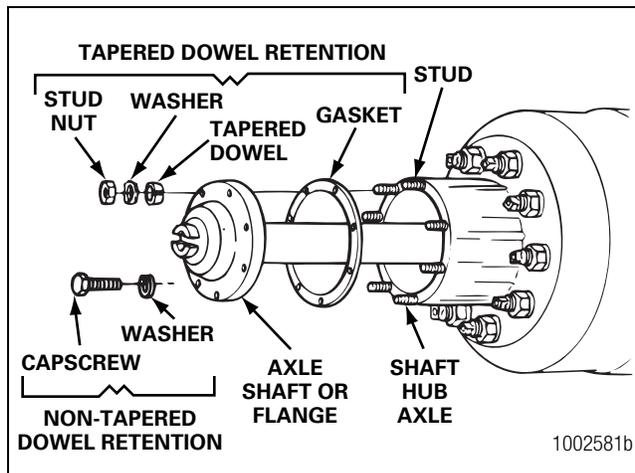

Figure 5.119
3. Install the gaskets and axle shafts into the axle housing and carrier. The gasket and flange of the axle shafts must fit flat against the wheel hub. Figure 5.119.
4. If the wheel hubs have tapered hole studs, install solid tapered dowels onto each stud and onto the flange of the axle shaft. Figure 5.119.
5. If the wheel hubs have straight hole studs, install the nuts and washers onto the studs. Figure 5.119. Tighten the nuts to the correct torque value. Refer to Section 8.
10. Install the gasket and axle shaft into the housing. The gasket and flange of the axle shaft must fit flat against the wheel hub. Figure 5.119.
2. If the drive axles are equipped with a main differential lock, shift the differential to the unlocked or disengaged position. Install the axle shafts with two sets of splines and new gaskets in the correct location as follows. Figure 5.119.